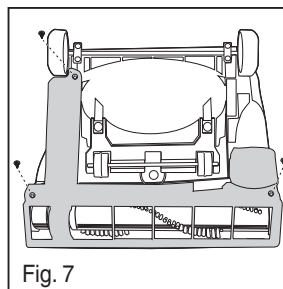

Fig. 7
- 1) Use handle release to lower handle flat onto floor. Turn vacuum over. Remove 3 screws (Fig. 7) and lift off base plate.